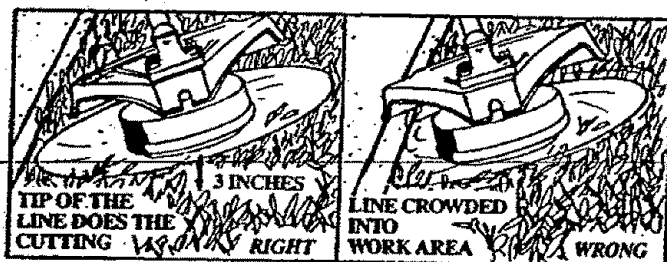

Figure 14
- The tip of the line does the cutting. You will achieve the best performance and minimum line wear by not crowding the line into the cutting area. The right and wrong ways are shown in Figure 14.